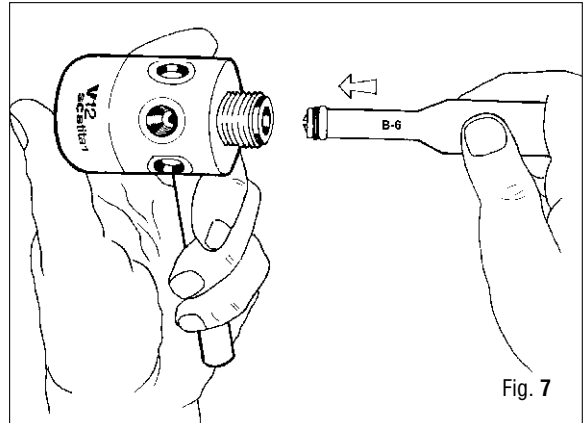

Fig. 7
9. Install O-ring (74) on seat connector (75).
11. With a slight pressure, push seat connector into position in the first stage body. (Fig. 7)